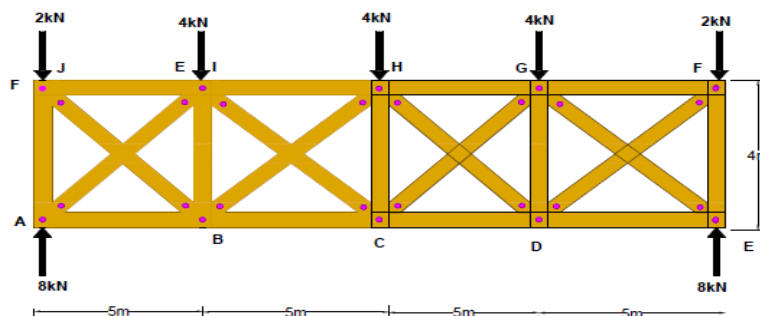

Fig 8
- (b) Analyze (approximately) the forces in the members of this truss. Cross bracing is used to provide lateral support for this bridge deck due to the wind and unbalanced traffic loads. Assume the diagonals are slender and therefore will not support a compressive force. The loads and support reactions are shown in Fig 8.